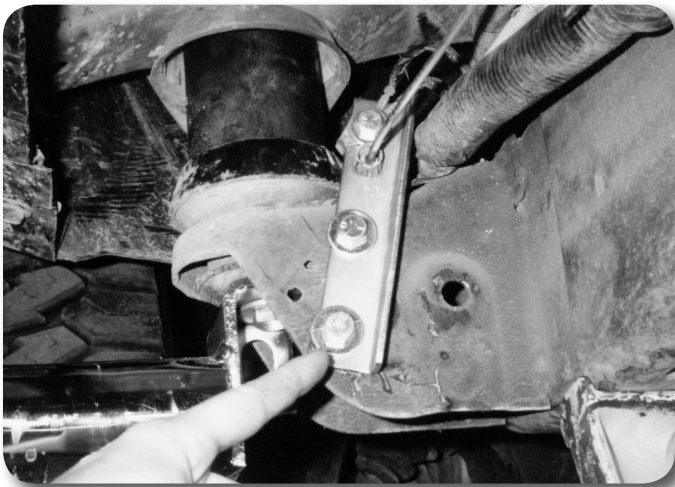

Figure 29
75. Using the provided parking brake cable relocation bracket as a template, mark the two lower mounting holes on the frame cab mount bracket. Drill 3/8" holes and mount the bracket using 3/8" x 1" bolts, nuts and 3/8" SAE washers **Figure 29**. Torque 3/8" hardware to 30 ft-lbs.